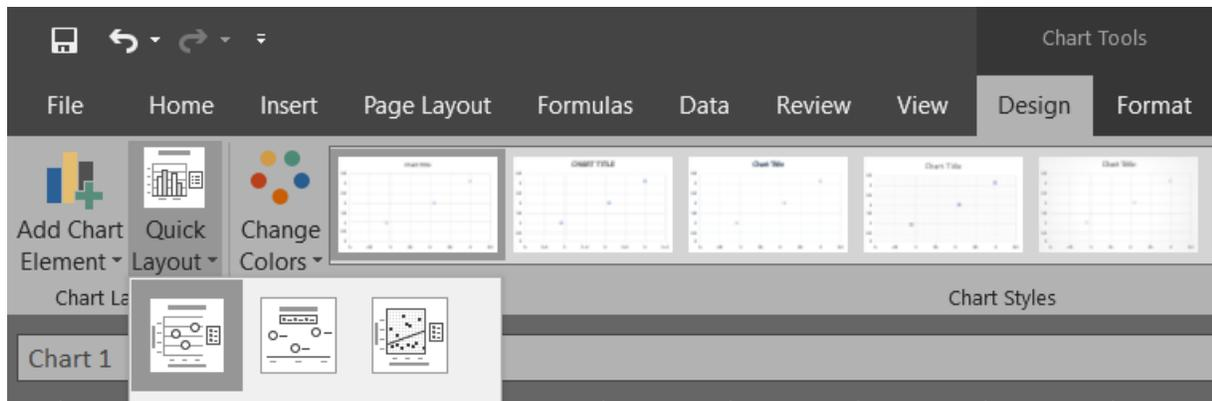

Fig. 4: Layout 1
5. Under Chart Tools, Design, click Quick Layout and choose Layout 1 (Fig. 4).